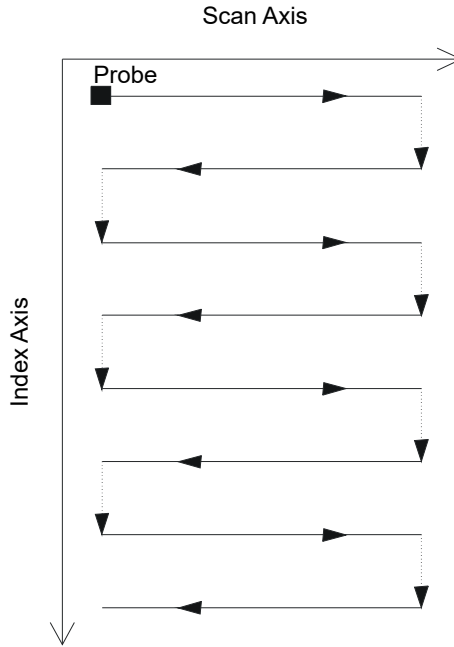

Figure 5-4 Bidirectional surface scan
A surface scan uses two axes: (1) the scan axis, which is the mechanical axis of the scanning lines (2) the index axis, which is the mechanical axis of movement between the scanning lines. At the end of each scan along the scan axis, an increment is added to the position along the index axis. Data acquisition for bidirectional sequences is carried out in both the forward and backward directions along the scan axis, as shown in Figure 5-4 on page 298.